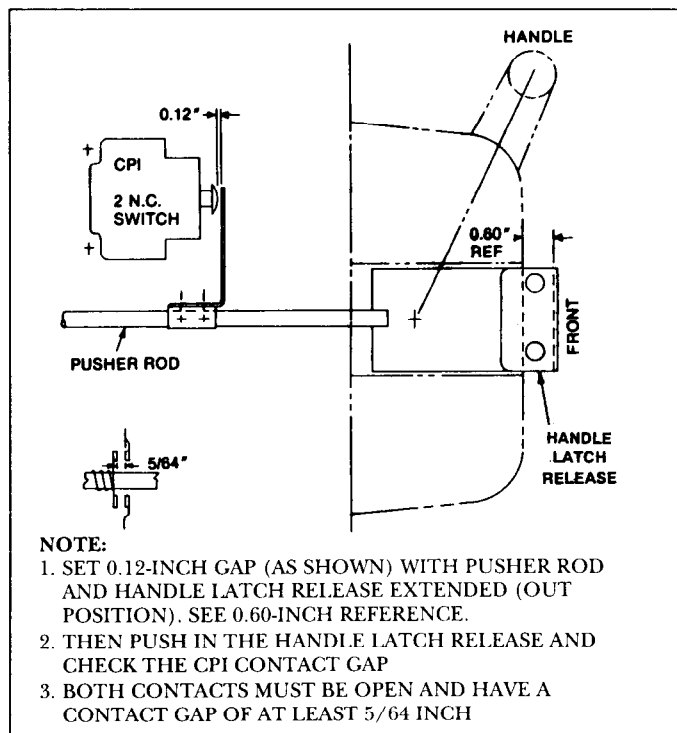

Figure 42. Checking for proper operation of pusher rod and control power interlock (CPI)
Check the CPI adjustments as shown in Figure 42 and adjust if required.
- B. Turn the top adjusting nut (W) until the interlock slider is just slightly below the handle latch release pusher rod (0.12 inches). See Figure 42 for location of pusher rod.
- C. When the proper position has been reached, hold the top adjusting nut (W) and tighten the bottom locking nut (X) to hold the adjustment. Finally, tighten the two locking nuts at the top of the armature interlock rod (Y).